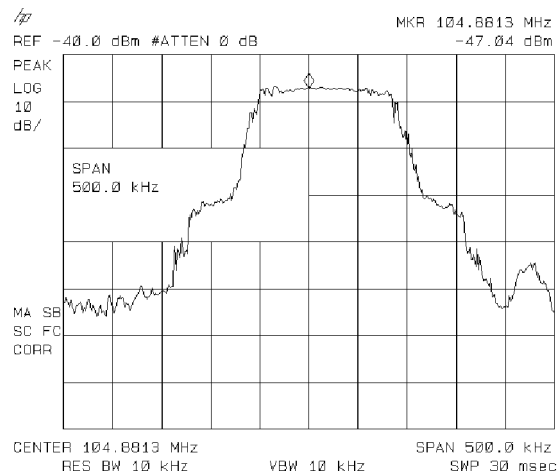

Figure 6-10. Viewing an Unstable Signal Using Max Hold A
- To measure the excursion of the signal, press **TRACE** then **MAX HOLD A**. As the signal varies, maximum hold maintains the maximum responses of the input signal, as shown in Figure 6-10.